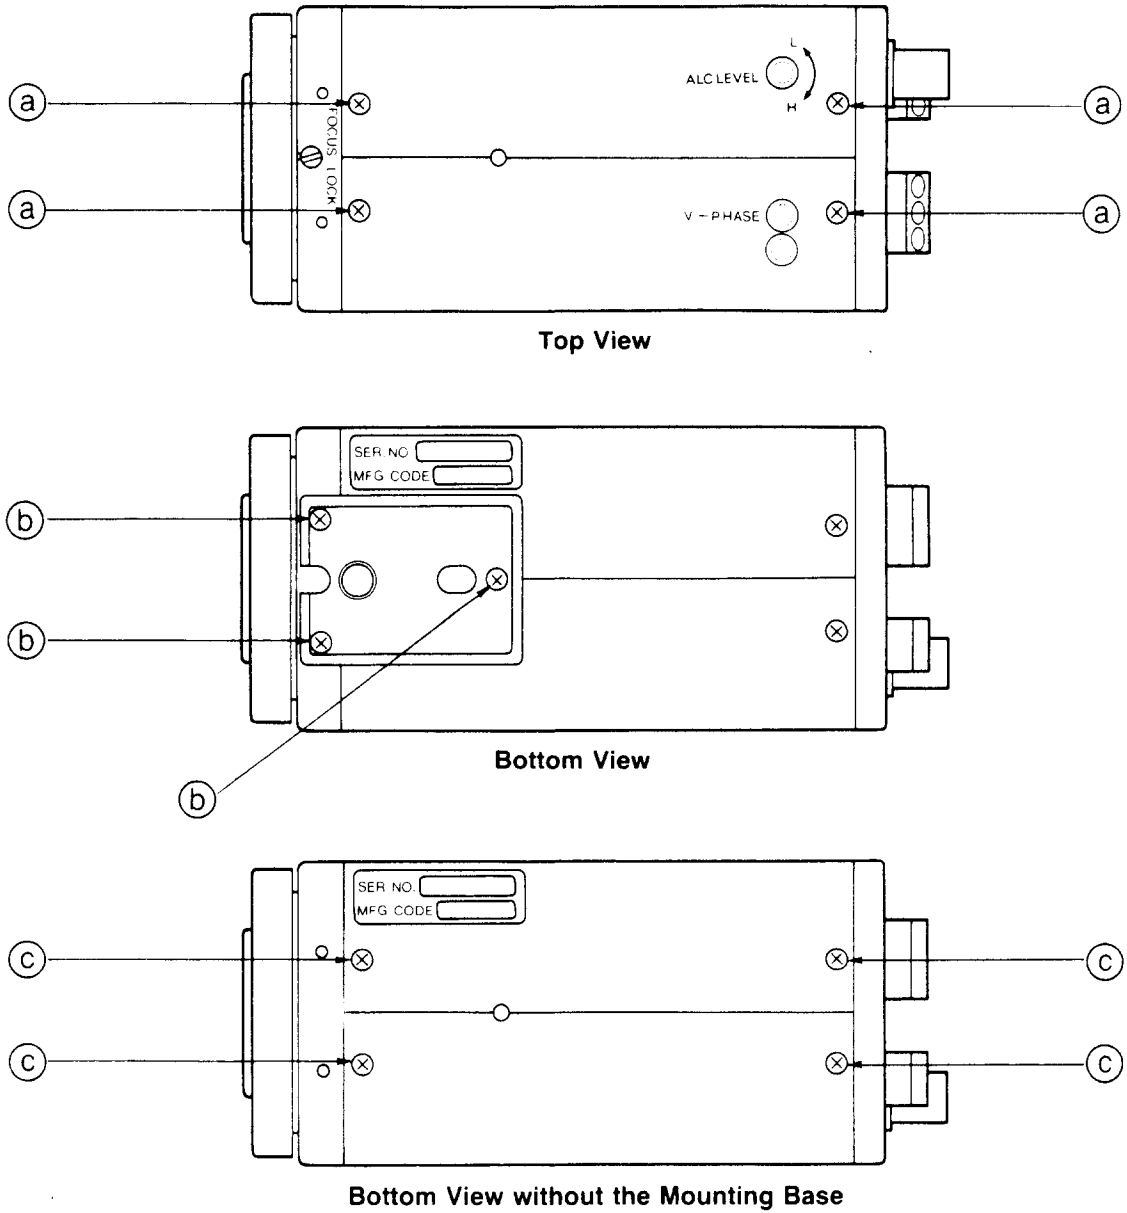

Figure 11
An on-off switch is provided for the AGC circuit. This switch is set to the ON position at the factory. If it is necessary to turn the AGC off, set the AGC switch to the OFF position using the "How to Open the Case" procedure (Figure 11). See Figure 12 for the location of the switch.
The VC2200-24 and -24C can operate either on internal sync or use power line phase-locked sync (line-locked sync). Access the internal switches using the "How to Open the Case" procedure (Figure 11). Set the sync switch (Figure 12) to the appropriate position (LINE LOCK or INTERNAL).
Sync Switch Setting: to set the switch, access the internal switches using the "How to Open the Case" procedure (Figure 11). Set the sync switch (Figure 12) in the appropriate position (LINE LOCK or INTERNAL)
1. Remove the four (4) screws (a) shown in Figure 11.
2. Loosen the three (3) screws (b) shown in Figure 11 to remove the mounting base.
3. Remove the four (4) screws (c) shown in Figure 11 to detach the right and left cases.